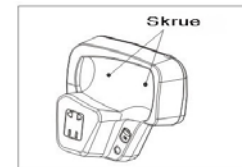

Fig. 3
- ❷ Loosen the screws marked on Fig. 3 and remove the front of the holder.
- ❸ Disconnect the power cable that came with the dryer from the terminal block.